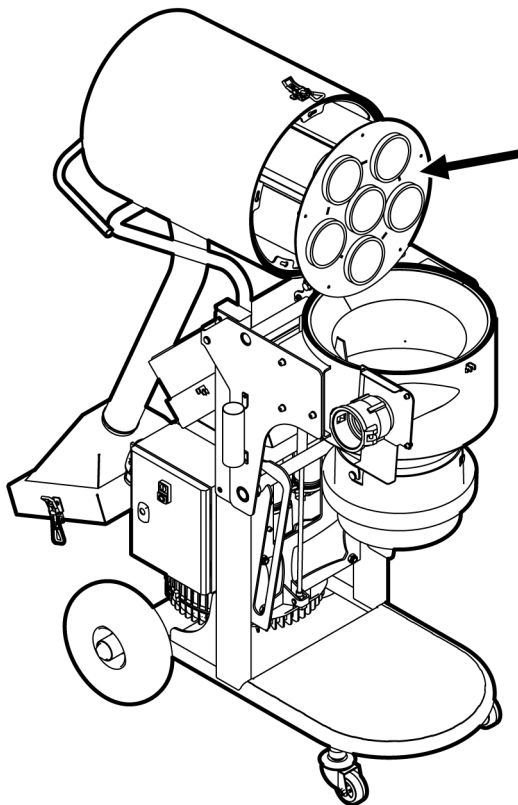

Figure 5-2. Change the sock filter cassette
2. Pull the whole cassette straight out, see Figure 5-2, page 27.